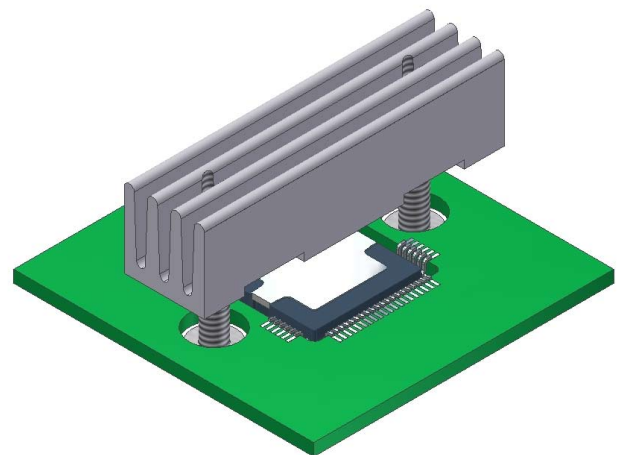

Figure 2 – User Control Features
Figure 2 shows the user control features of the DB63R. The PWM duty cycle is controlled with the potentiometer (1 in figure 2). The power LED (2) will illuminate when the 12V supply is connected. The DB63R will power up with the SA57 disabled. The enable button (3) will toggle the SA57 on and off with the LED (4) illuminating to indicate the enable status. Direction of the motor is similarly controlled with the button (5) and is indicated by the LED (6).